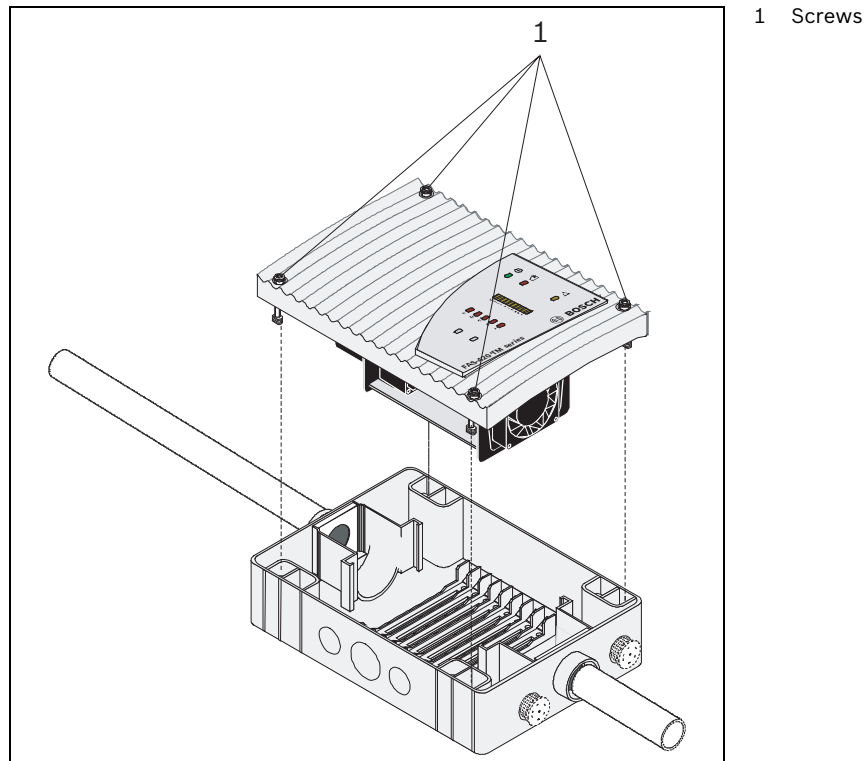

Figure 4.5 Inserting the detection unit of the FCS-320-TM
4. Insert the detection unit into the pre-mounted housing base. When doing this, be aware of the mechanical coding, which protects the device against twisting. Tighten the four screws of the detection unit using a screwdriver (see *Figure 4.5*).